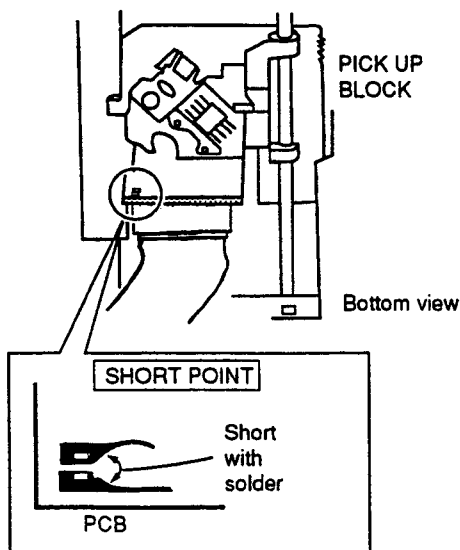

Fig. 3-2
- 2) Short the circuit on the PICK UP BLOCK with solder as shown in Fig. 3-2.